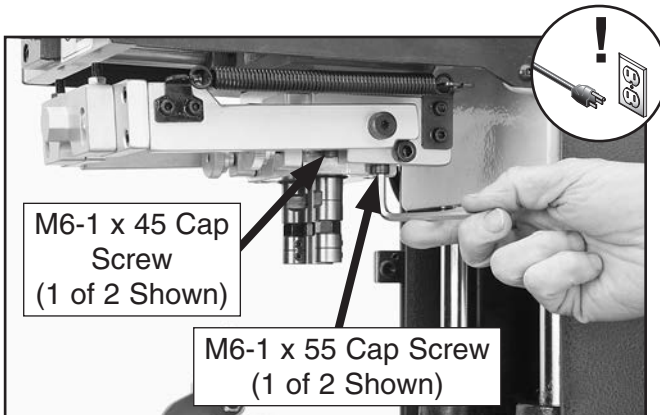

Figure 18. Securing swing arm assembly.
10. Pivot the swing arm up and secure both sides of the swing arm assembly to the head with (2) M6-1 x 45 cap screws and (2) M6-1 x 55 cap screws, using each size where shown in **Figure 18**.